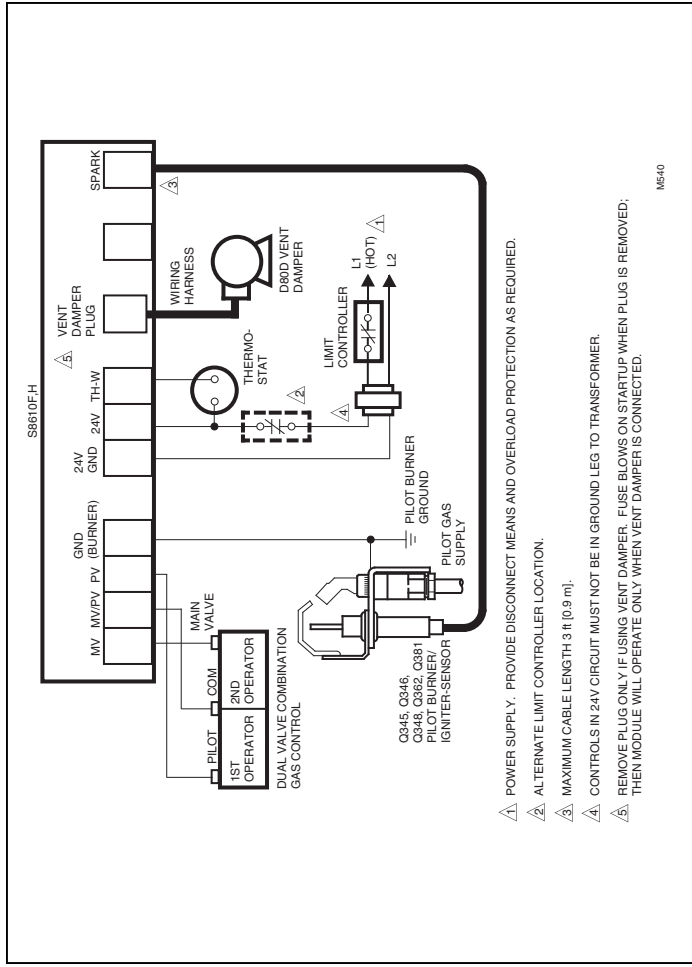

Fig. 3—S8610F,H with a vent damper plug in a heating system with an atmospheric burner and a D80D Vent Damper.
- Fig. 3 shows S8610F,H with vent damper plug in a heating only atmospheric burner system with D80D Vent Damper. *Never use a vent damper in an LP gas system or in a fan-assisted combustion system.*